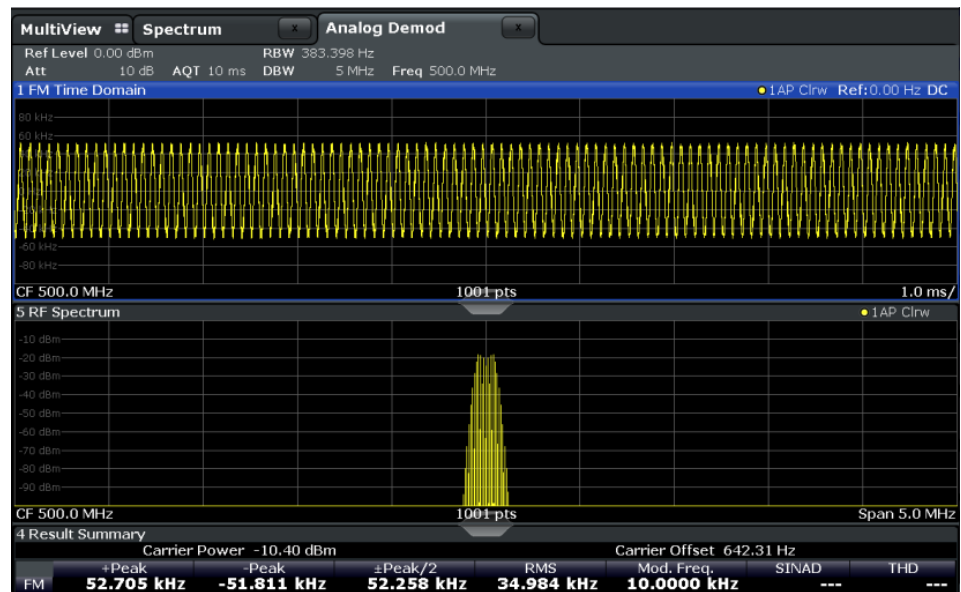

Fig. 9-4: RF spectrum of FM signal with default demodulation bandwidth = 5 MHz
8. As you can see in figure 9-4, the default demodulation bandwidth of 5 MHz is much too large - the actual signal takes up only a small part of the displayed range. That means that any noise or additional signals apart from the FM signal of interest may be included in the measured results. Select the "Demod BW" softkey and reduce the value to 200 kHz.